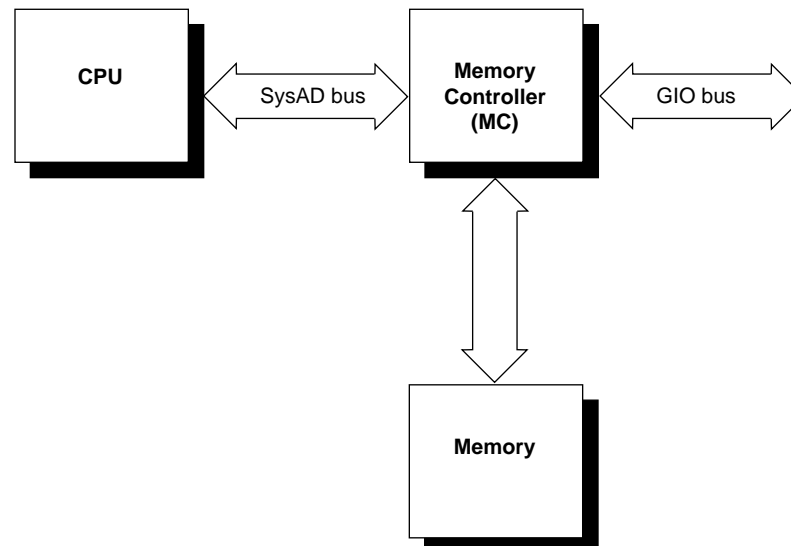

Figure 18-1 The SysAD Bus in Relation to GIO
Beginning with IRIX 5.3, parity checking is enabled on the SysAD bus, which connects the CPU to memory in workstations that use the GIO bus (see Figure 18-1). Unfortunately, with certain GIO cards, errors can occur if memory reads complete before the Memory Controller (MC) finishes calculating parity.